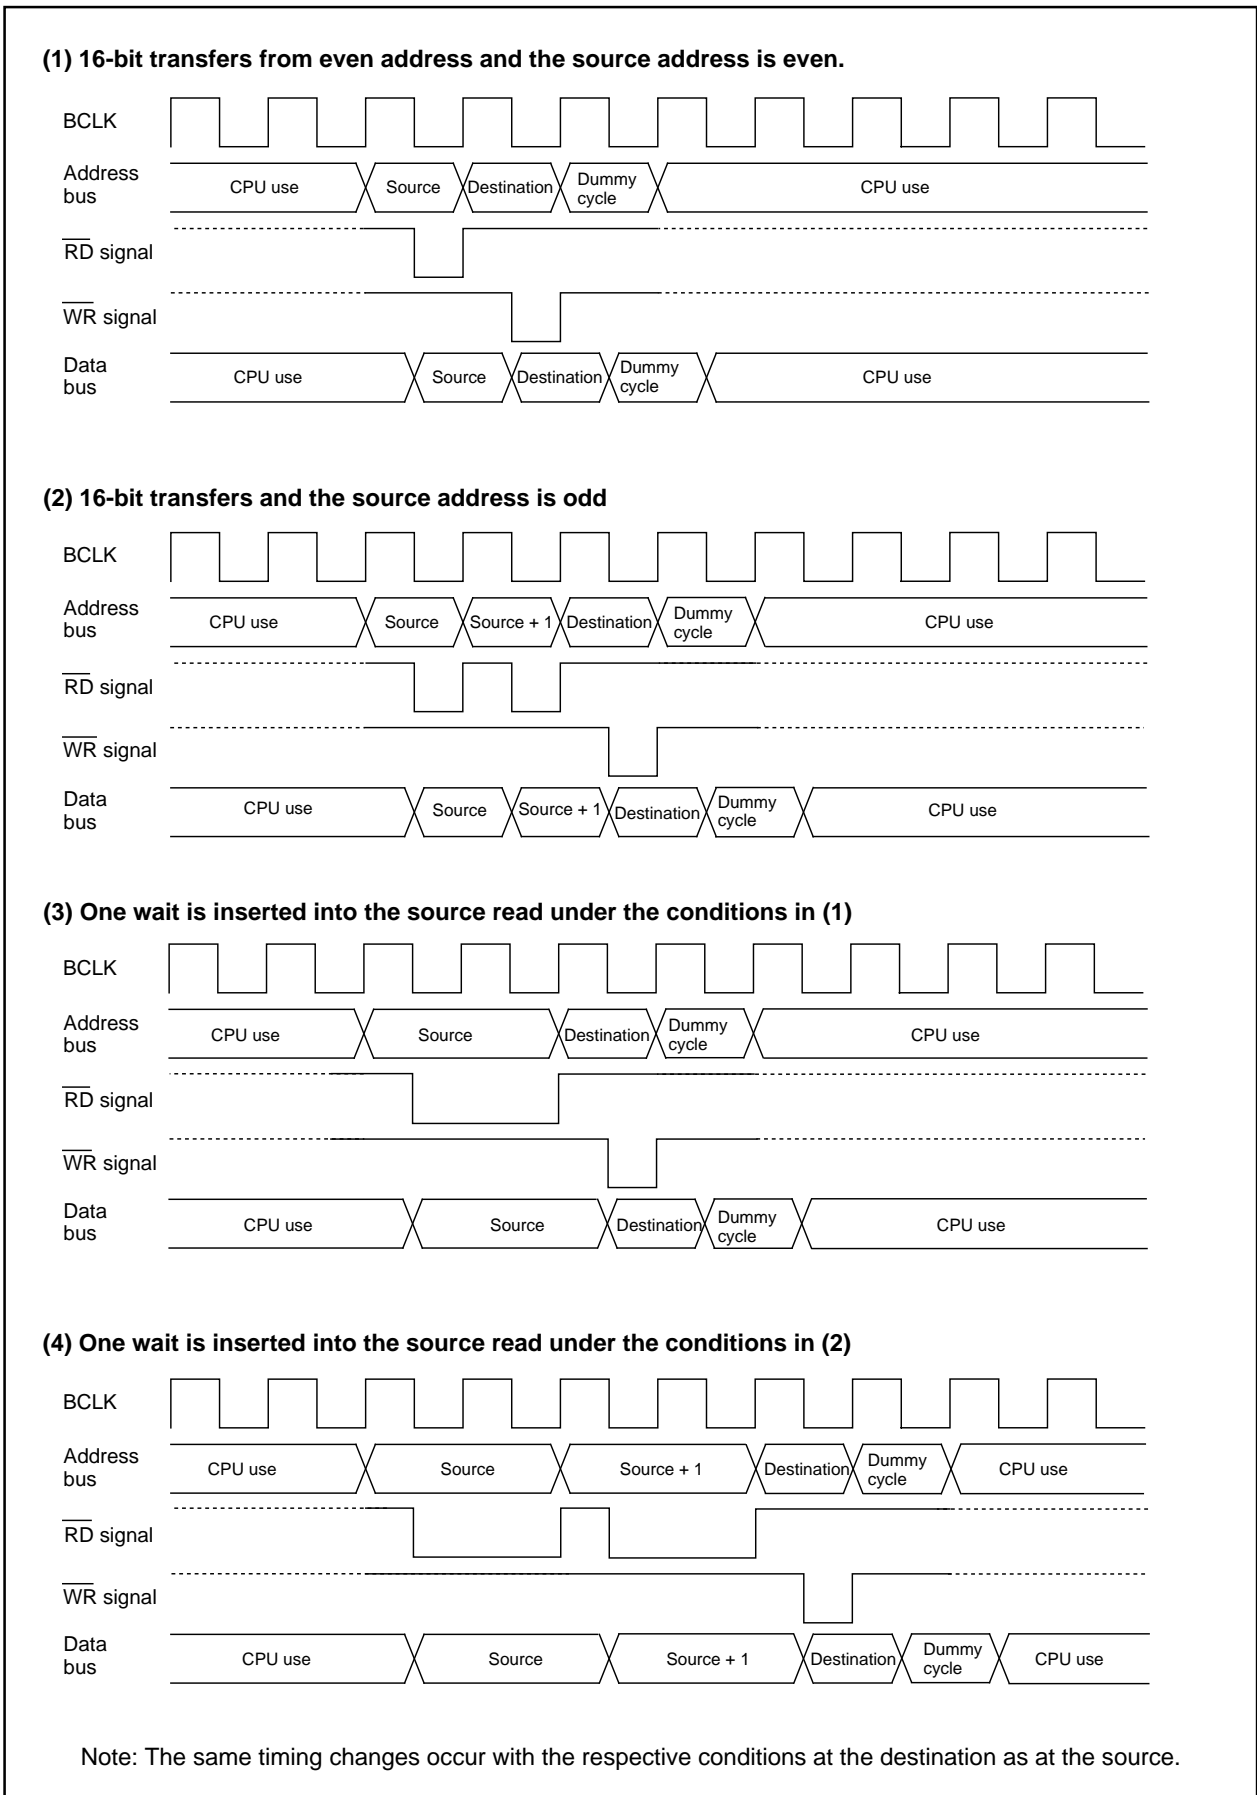

Figure 1.12.5. Example of the transfer cycles for a source read
Figure 1.12.5 shows the example of the transfer cycles for a source read. For convenience, the destination write cycle is shown as one cycle and the source read cycles for the different conditions are shown. In reality, the destination write cycle is subject to the same conditions as the source read cycle, with the transfer cycle changing accordingly. When calculating the transfer cycle, remember to apply the respective conditions to both the destination write cycle and the source read cycle. For example (2) in Figure 1.12.5, if data is being transferred in 16-bit units and source address is odd, two bus cycles are required for both the source read cycle and the destination write cycle.